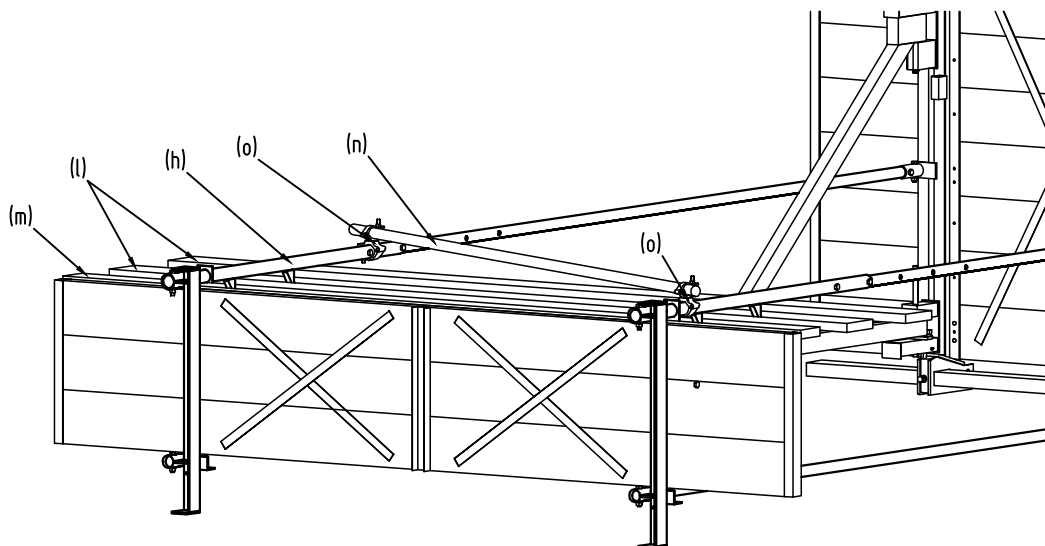

Fig. 7
- 7 Insert guard rail board (l) [Part No. 557224] and board (m) [Part No. 557226] and attach with nails. Fasten diagonal scaffold tube [Part No. 503000] with 2 No. swivel couplers 48x60 (o) [Part No. 510600] to the guard rails (h) (see Fig. 7).